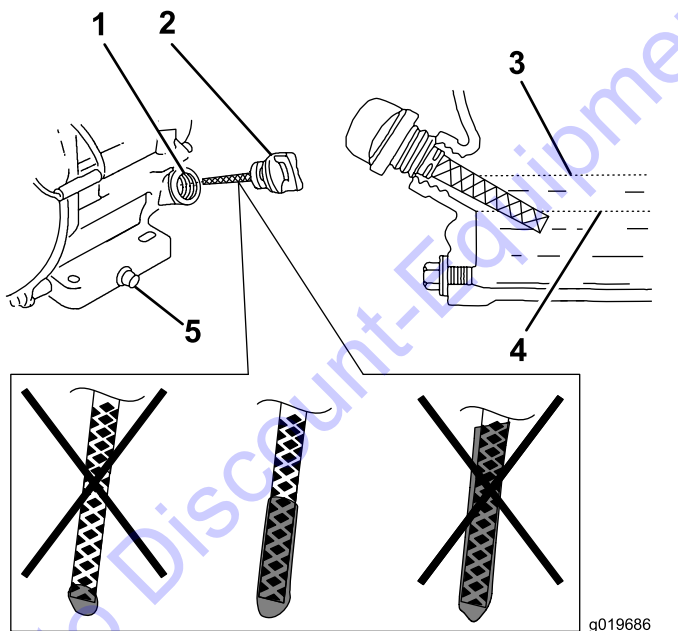

Figure 18
3. Clean around the oil filler cap/dipstick (Figure 18).
Note: If oil level is near or below the lower limit mark on the dipstick, add only enough of the specified oil to raise level to the upper limit mark (bottom edge of the oil fill hole); refer to Figure 18.
7. Check level of oil (Figure 18).
8. Install the oil filler cap/dipstick and wipe up any spilled oil (Figure 18).
4. Remove the oil filler cap/dipstick by rotating it counterclockwise (Figure 18).
4. Fill the crankcase with the specified oil; refer to Figure 18 in Checking the Engine-Oil Level (page 22).